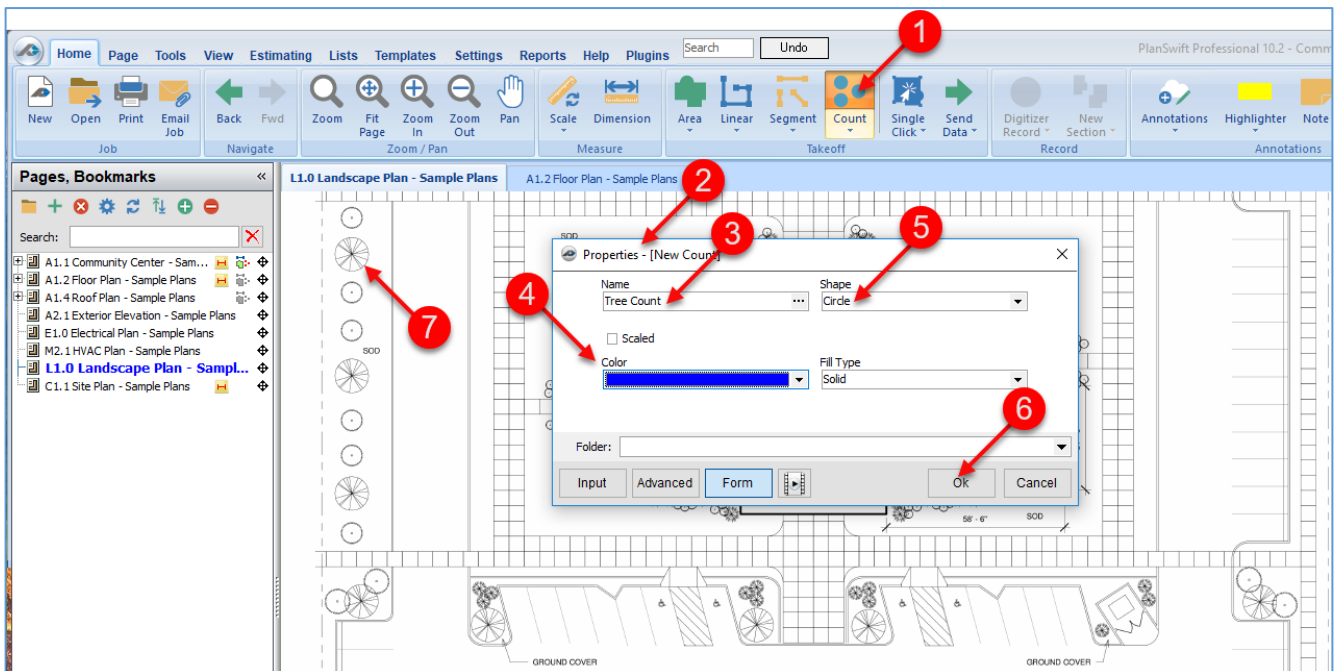

Figure 13-A
- Click on the remaining tree items and press **Esc** to stop the takeoff (Fig. 13-B).